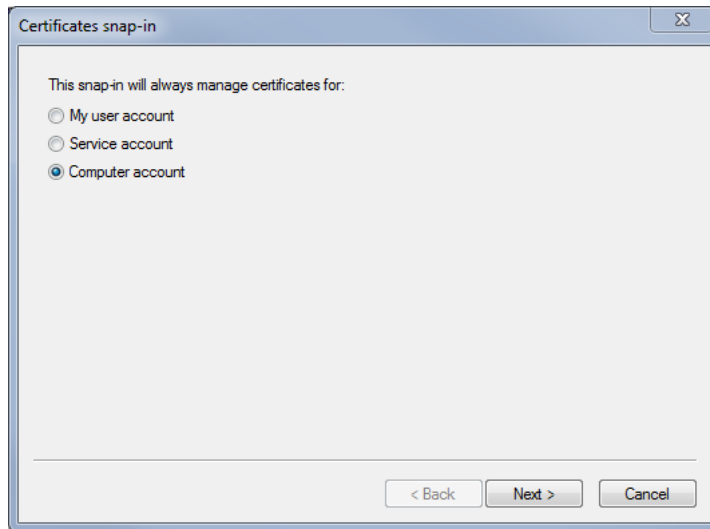

Fig. 2-3: Certificates Snap-in
3. Double click on 'Certificates'. The 'Certificates Snap-in' window is displayed (Figure 2-3).